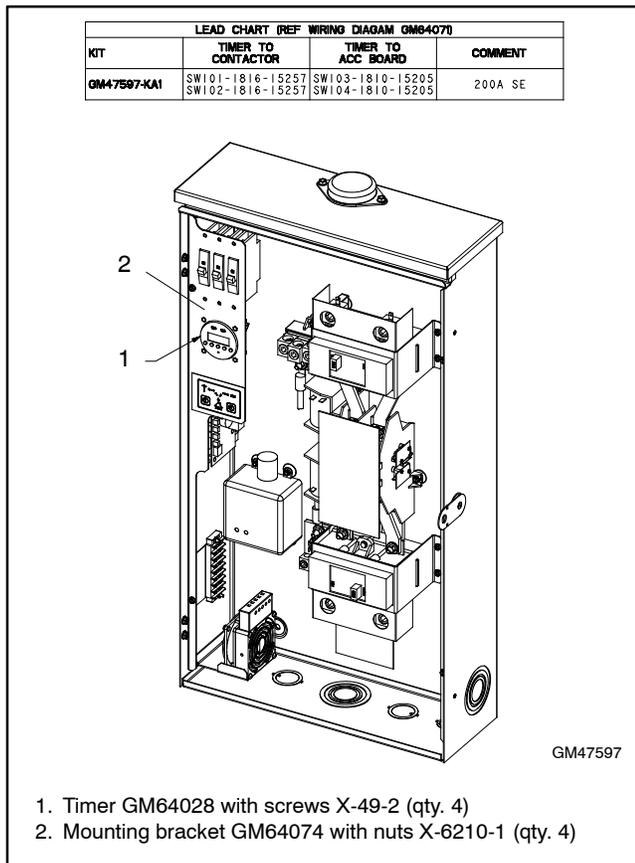

Figure 6 Retrofit Timer Replacement Service Kit GM64108 for Service Entrance-Rated 200 Amp Model RDT
See Figure 6 and Figure 7. Use Service Kit GM64108 to replace an old style timer GM39330 with timer GM64028. The service kit includes retrofit mounting panel GM64074.
2. Align and insert the mounting studs on the retrofit mounting bracket through the newly drilled holes on the existing mounting bracket. Thread nuts X-6210-1 onto the mounting studs to secure. See Figure 6 and Figure 7.